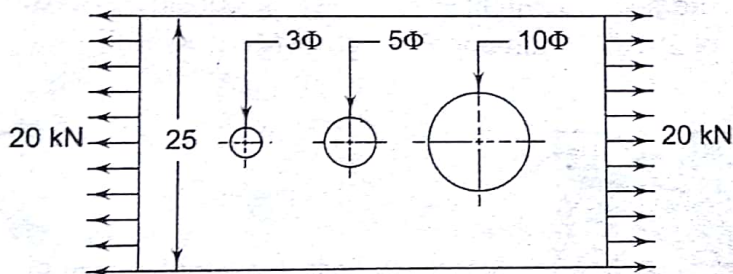

Fig. 5.58
- 5.1 **S** A rectangular plate, 15 mm thick, made of a brittle material is shown in Fig. 5.58. Calculate the stresses at each of three holes of 3, 5 and 10 mm diameter. [LO 1]